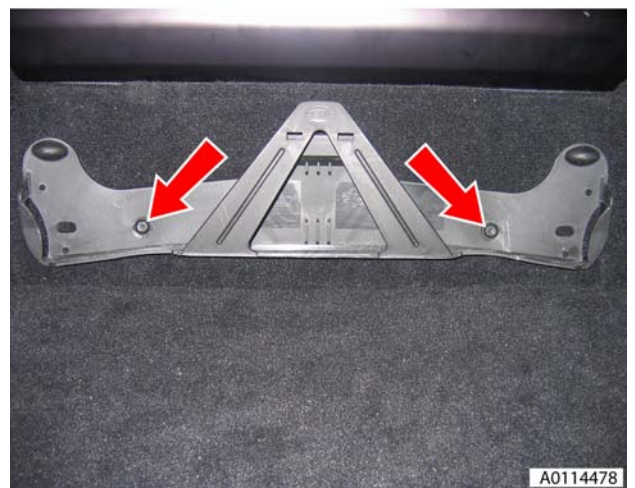

Figure 2
3. Remove 2 bolts securing warning triangle bracket to body and remove (see Figure 2).